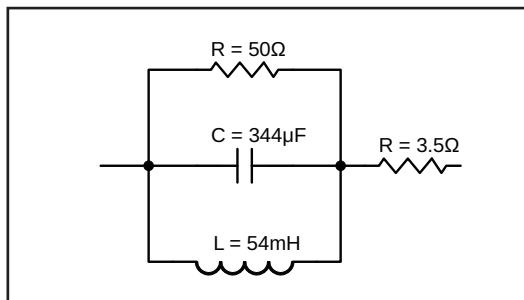

Figure 13: Here are equivalent real-world values of impedance for the Fisher woofer.
**Figure 13** shows the LCR filter model, with the effective component values. This filter's impedance curve is comparable to that of the Fisher woofer.